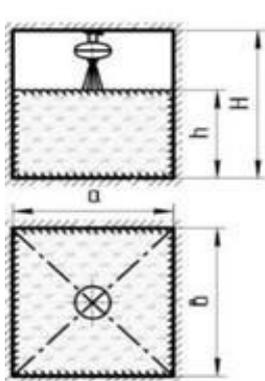
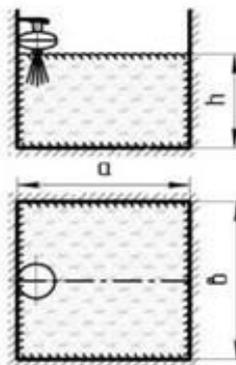

Figure 4
Figure 6
6.2 Suspension 8 can be mounted under the ceiling (Figure 1) or suspension 9 (Figure 2) can be attached to the wall. Please mark the places for attaching the suspension as on the (Figure 3) and on the wall acc. (Figure 4).
6.6 The configuration of the powder dispersion and the representation of the extinguishing surfaces for ceiling mounting are shown in Figure 4 and Tables 2 and 3, and for wall mounting in Figure 6 and Table 4.